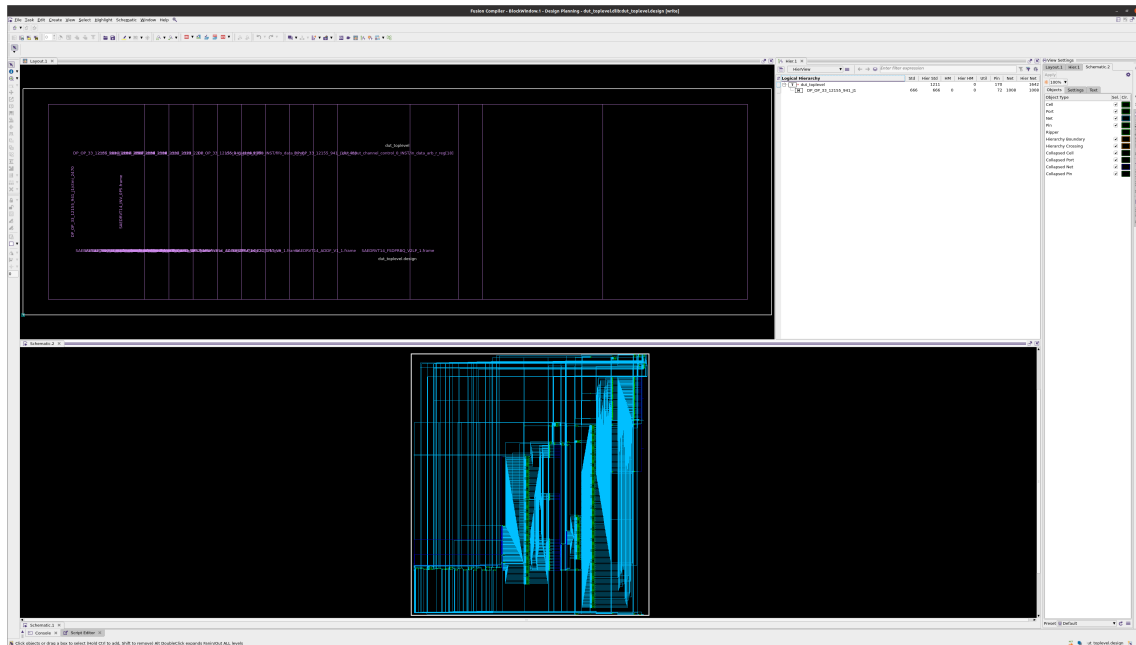
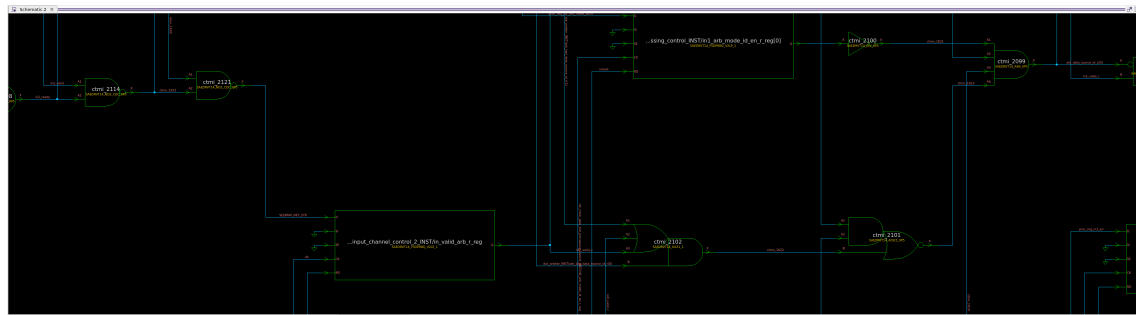

Figure 1.4: Layout and schematic of top level module after initial mapping.
Figure 1.5: Layout after initial mapping, showing elements from SAEDRVT14 library.
After the `initial_map` step of compilation, the hierarchy is flattened (Fig. 1.4), layout is populated with lots of overlapping cells (Fig. 1.4) and elements in layout use elements available in the provided technology library (Fig. 1.5).
1. After `initial_map` all cells are overlapping like shown previously on Fig. 1.4.